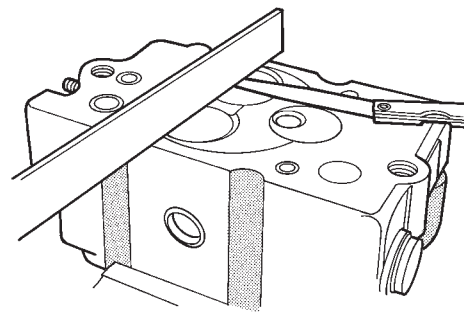

Fig. 5 Checking Valve Stand Down
(1) Invert cylinder head.
(2) Fit each valve to its respective valve guide.
(3) Using a straight edge and feeler gauge (Fig. 5), check valve head stand down: Inlet valve head stand down .80 to 1.2 mm (.031 to .047 in.) and exhaust valve stand down .79 to 1.19 mm (.031 to .047 in.).
(4) If valve head stand down is not in accordance with above, discard original valves, check stand down with new valves and recut valve seat inserts to obtain correct stand down.